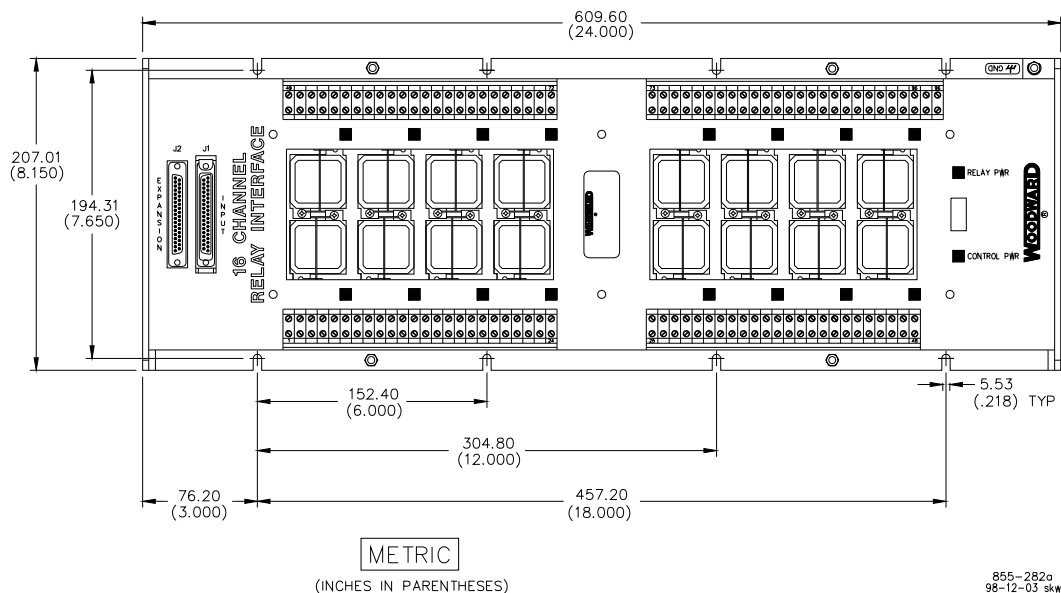

Figure 15-2—16 Channel Relay Box Outline Drawing
1. Mark the location of the relay box and the locations of the holes to be drilled to mount it. Figures 15-2 and 15-3 are outline drawings of the relay boxes.